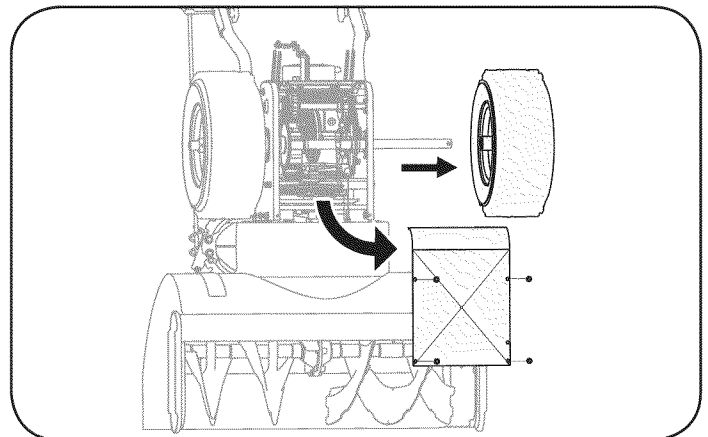

Figure 36
- Remove screws from the frame cover underneath the snow thrower. See Figure 36. Remove the right wheel from the axle.